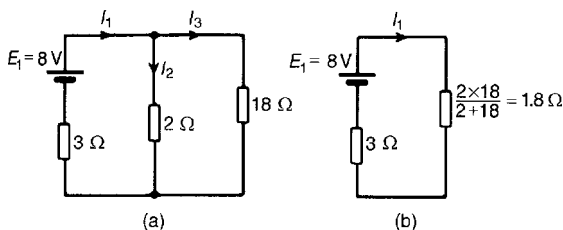
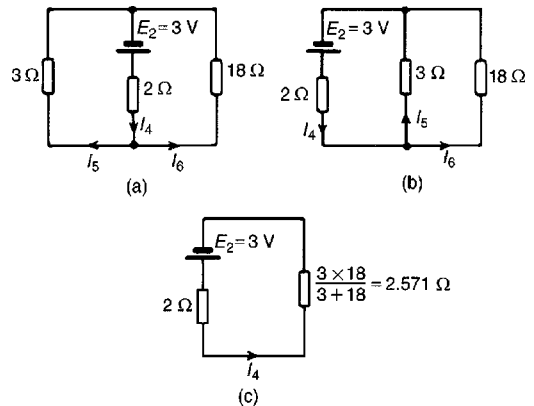
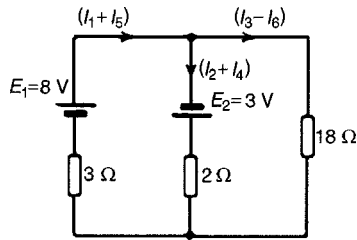

Figure 13.22
Figure 13.23
Figure 13.24
1. Removing source  $E_2$  gives the circuit of Fig. 13.22(a)
2. The current directions are labelled as shown in Fig. 13.22(a),  $I_1$  flowing from the positive terminal of  $E_1$
From Fig 13.22(b),
From Fig 13.22(a),
3. Removing source  $E_1$  gives the circuit of Fig. 13.23(a) (which is the same as Fig. 13.23(b))
4. The current directions are labelled as shown in Figures 13.23(a) and 13.23(b),  $I_4$  flowing from the positive terminal of  $E_2$
From Fig. 13.23(c),
From Fig. 13.23(b),
5. Superimposing Fig. 13.23(a) on to Fig. 13.22(a) gives the circuit in Fig. 13.24